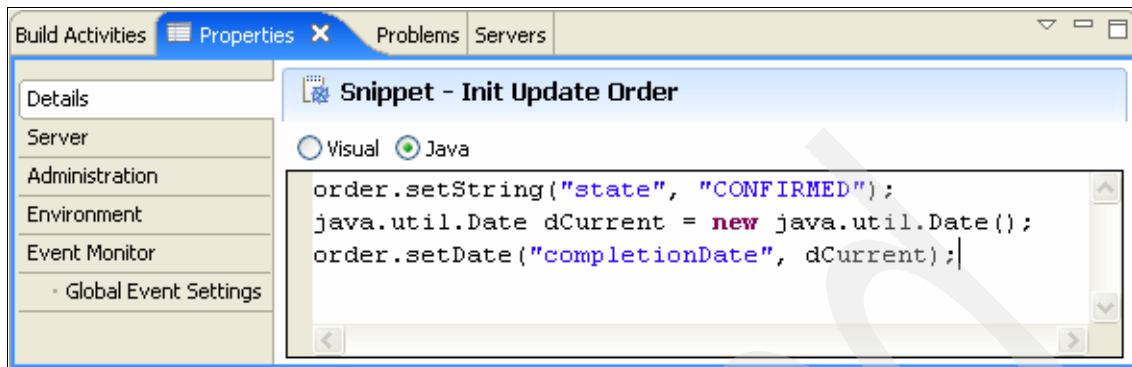

Figure 3-172 Init Update Order details
2. Set the details as shown in Figure 3-172.